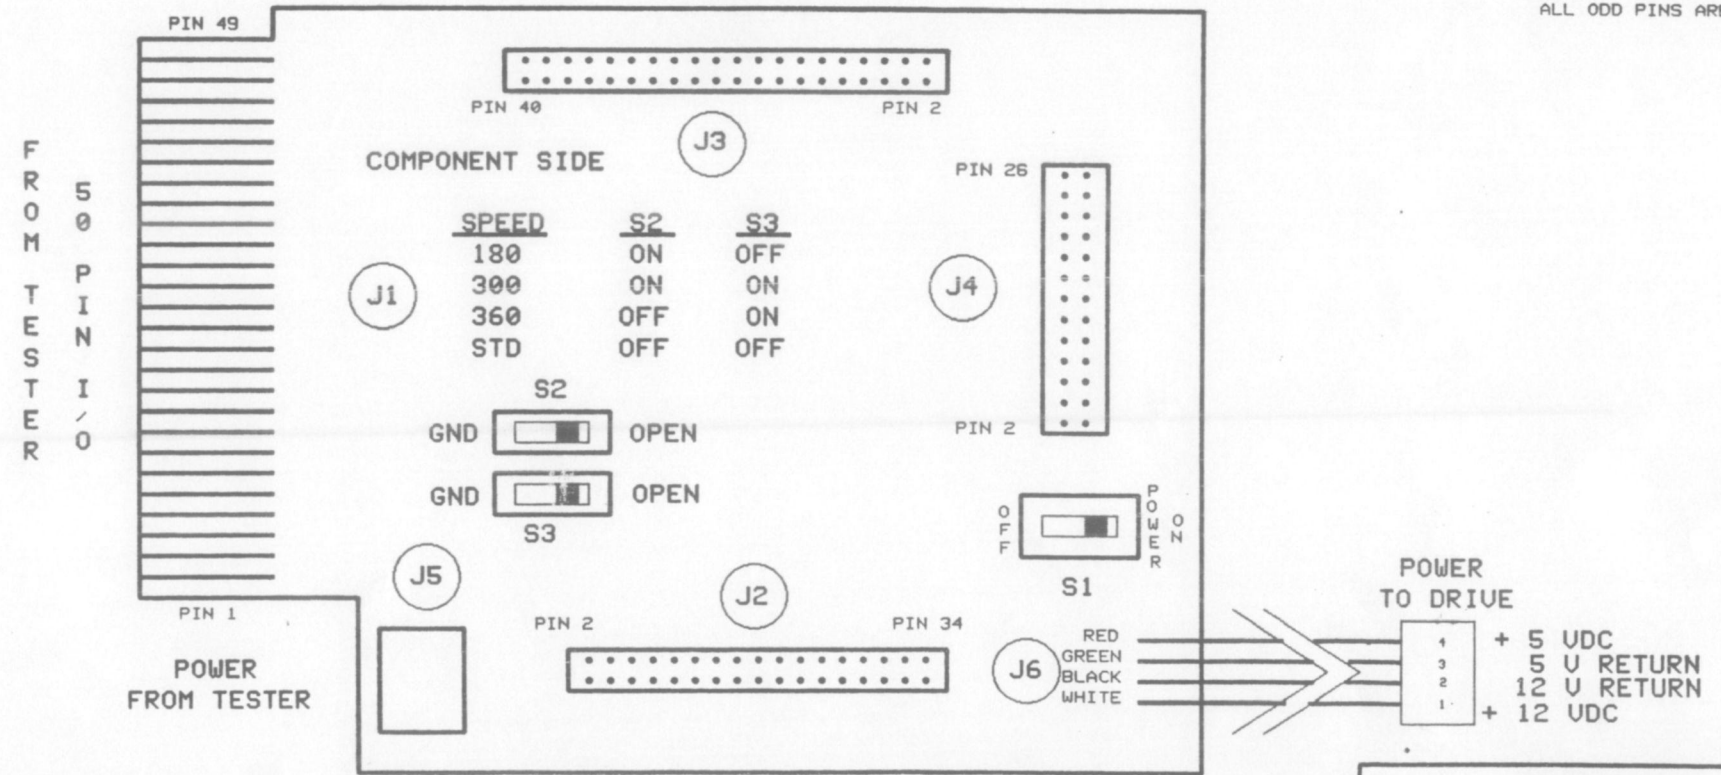

FIGURE 1
The UNIDAPT **450L** has three switches to extend the range of operation (see Figure 1) and are explained below:
- S1 POWER ON/OFF - This switch is used to direct +5VDC and +12VDC (if required) to the I/O of the 26, 34 and 40 Pin interfaces. When ON, power is through the I/O on the pins as noted in Figure 1. When OFF, power is conventional through **J6** and not supplied to the I/O. The pins affected are as follows:
- S3 PIN 3/11 CONTROL - This switch is used to change the state of Pin 3 of the 34 Pin interface and Pin 11 of the 26 Pin interface. In conjunction with S2, this switch is used to control the spindle motor speed on tri-speed drives (180,300,360 RPM) that have a 34 Pin interface (refer to Figure 1 for speed control settings). Some 26 Pin interfaces use this Pin for density control (see the attached page for switch settings). When in the OPEN position, these Pins will be held HIGH via the drive interface pullup resistor. When in the GND position, these Pins will be held to Ground.
The ANALOG ATTACHMENT is comprised of a BUSS INTERFACE Board that is inside the Tester and is used to translate digital samples of the analog information for the Tester microprocessor to calculate. An ANALOG POD is supplied, which is external to the Tester and receives the analog and control signals necessary to properly perform the analog measurements provided with this option (see FIGURE 1).